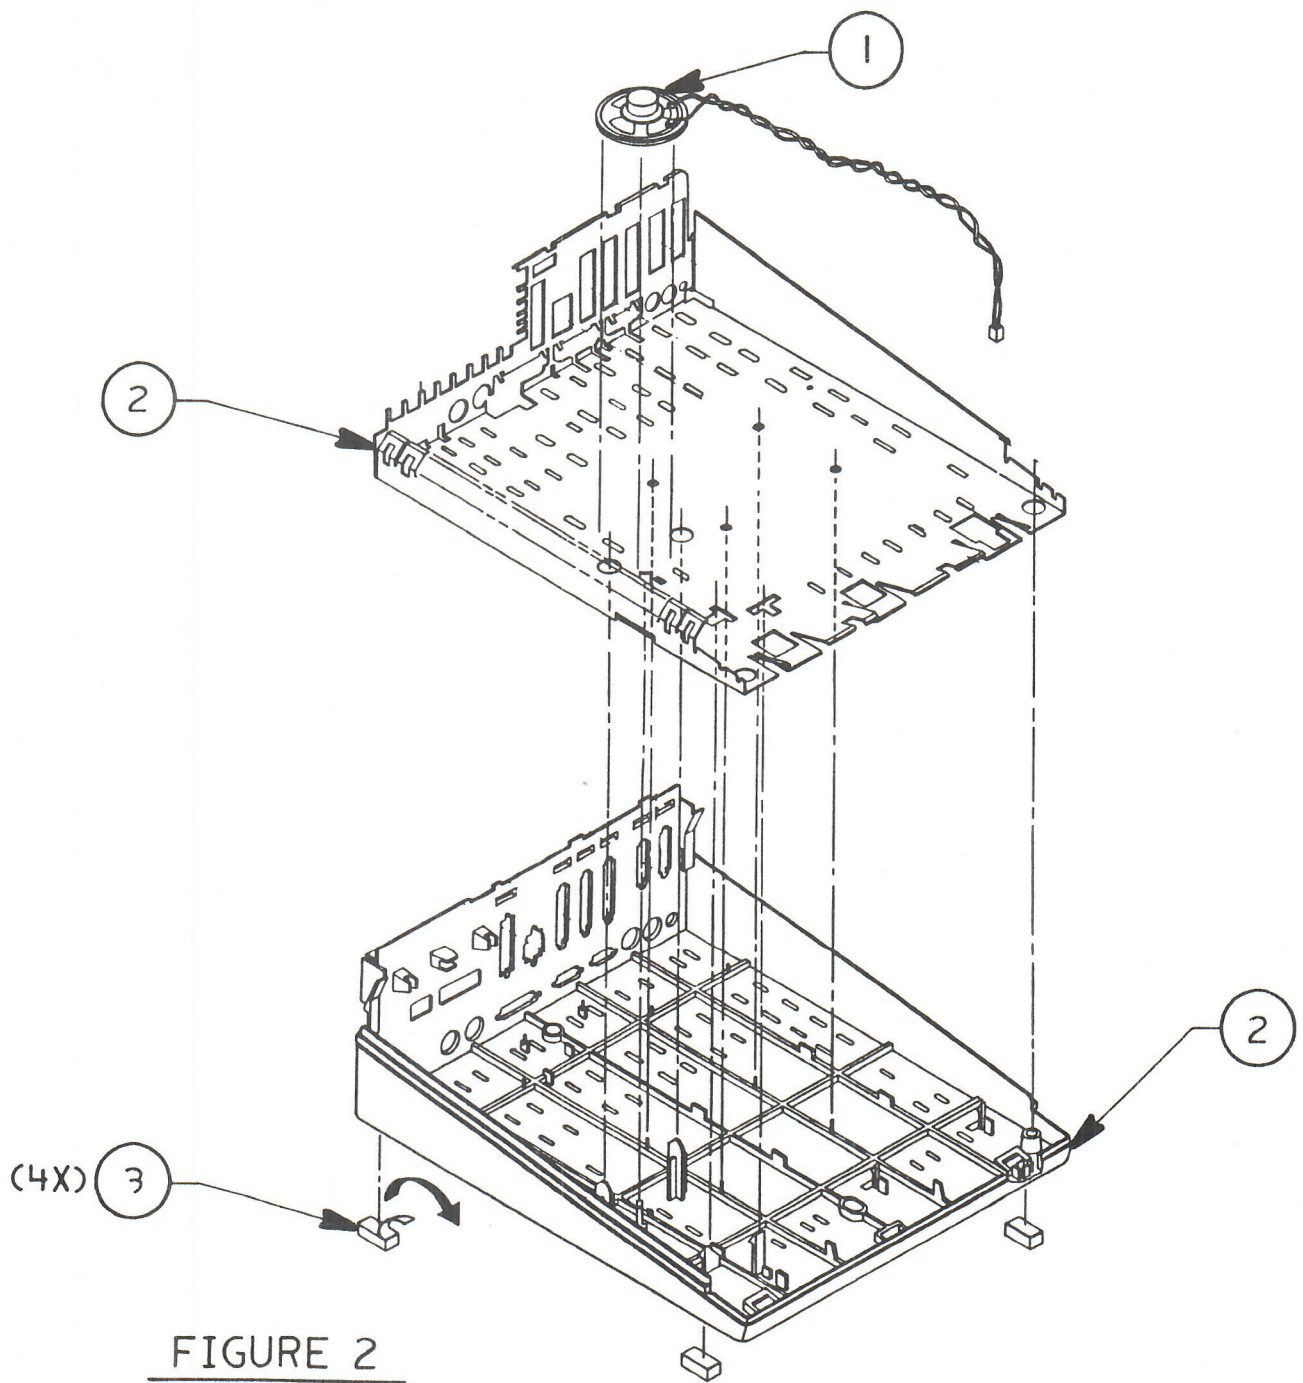

FIGURE 2
- 6.5 Base Assembly (Figure 2)
SEE FIG. 2
□ **APPLE IIgs – BASE ASSEMBLY (Figure 2)**